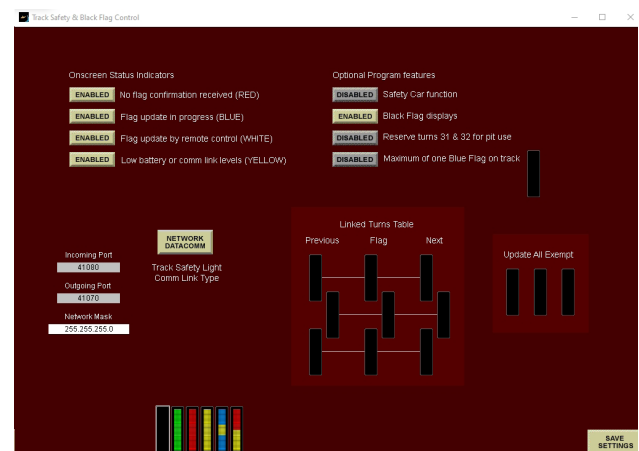

Figure 12 - System Settings Screen
This section will select the type of data communications between the PC and the ontrack TSL's as shown in Figure 12. Click on the button to toggle between Hardwired RS485 communications and IP Network communications.
Additional features can be enabled and disabled to further customize the automatic operation of the software and safety lights during the race event (see Figure 12).
**LINKED TURN TABLE** - When a flag is assigned to a turn, another flag can automatically be assigned to the previous turn and the next turn using this table. To link previous turn and next turn flags, click on a flag at the bottom of the screen and then click the box under the PREVIOUS column for the previous turn, FLAG column for the offending turn, or the NEXT column for the next turn on the track. Up to three relationships between flags and turns can be configured. Figure 12 illustrates a yellow flag send to a turn will cause the previous turn to be a double yellow and the next turn to be a green.